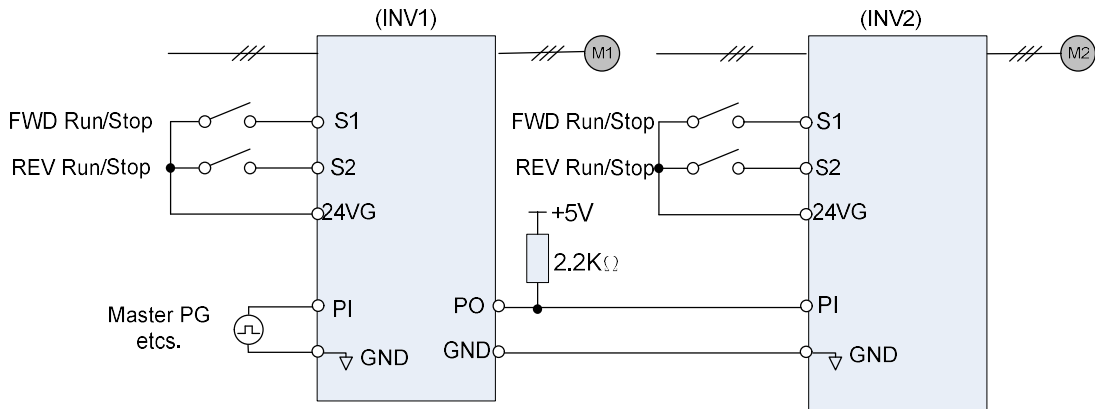

Figure 4.3.46 Connection and operation of 2 inverters
- Refer to Figure 4.3.46 on using 2 inverters for “tracking” or synchronization operations.